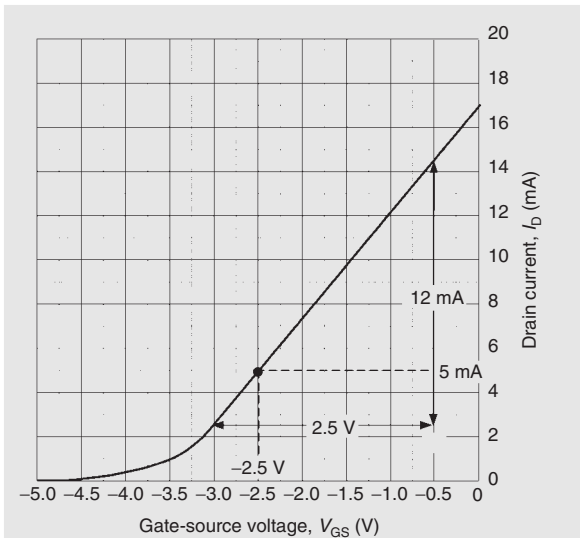

Figure 12.20
Problem 8. Figure 12.20 shows the mutual characteristic for a junction gate field effect transistor. When the gate-source voltage is -2.5 V, determine (a) the value of drain current, (b) the dynamic value of forward transconductance.
- (a) From Fig. 12.20, when $V_{GS} = -2.5\text{ V}$, the **drain current, $I_D = 5\text{ mA}$**
- (b) From Fig. 12.20